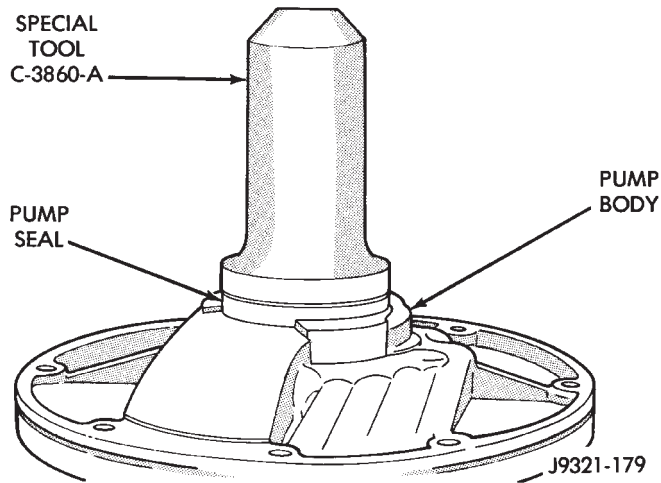

Fig. 60 Oil Pump Seal Installation—46RH
(4) Align and install reaction shaft support on pump body.
(5) Install bolts attaching reaction shaft support to pump. Tighten bolts to 20 N•m (175 in. lbs.) torque.
(6) Install new pump seal with Seal Installer C-3860-A (Fig. 60). Use hammer or mallet to tap seal into place.